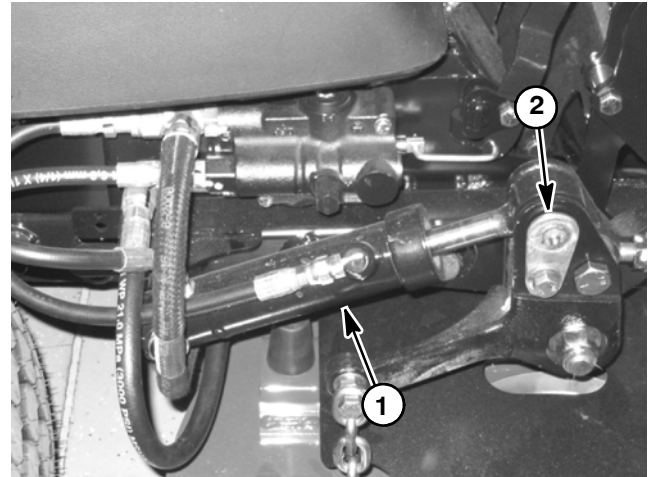

Figure 109
6. Remove flange head screw and pivot pin that secure lift cylinder rod end to RH lift arm (Fig. 109).
4. Secure cylinder rod end to RH lift arm with pivot pin and flange head screw (Fig. 109).